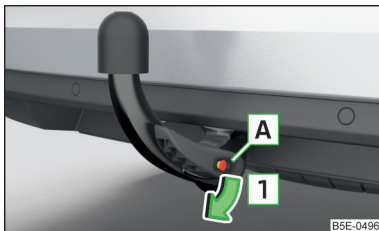

Fig. 295
- Remove the cover **A** from the lock in the direction of the arrow **1** » Fig. 295.